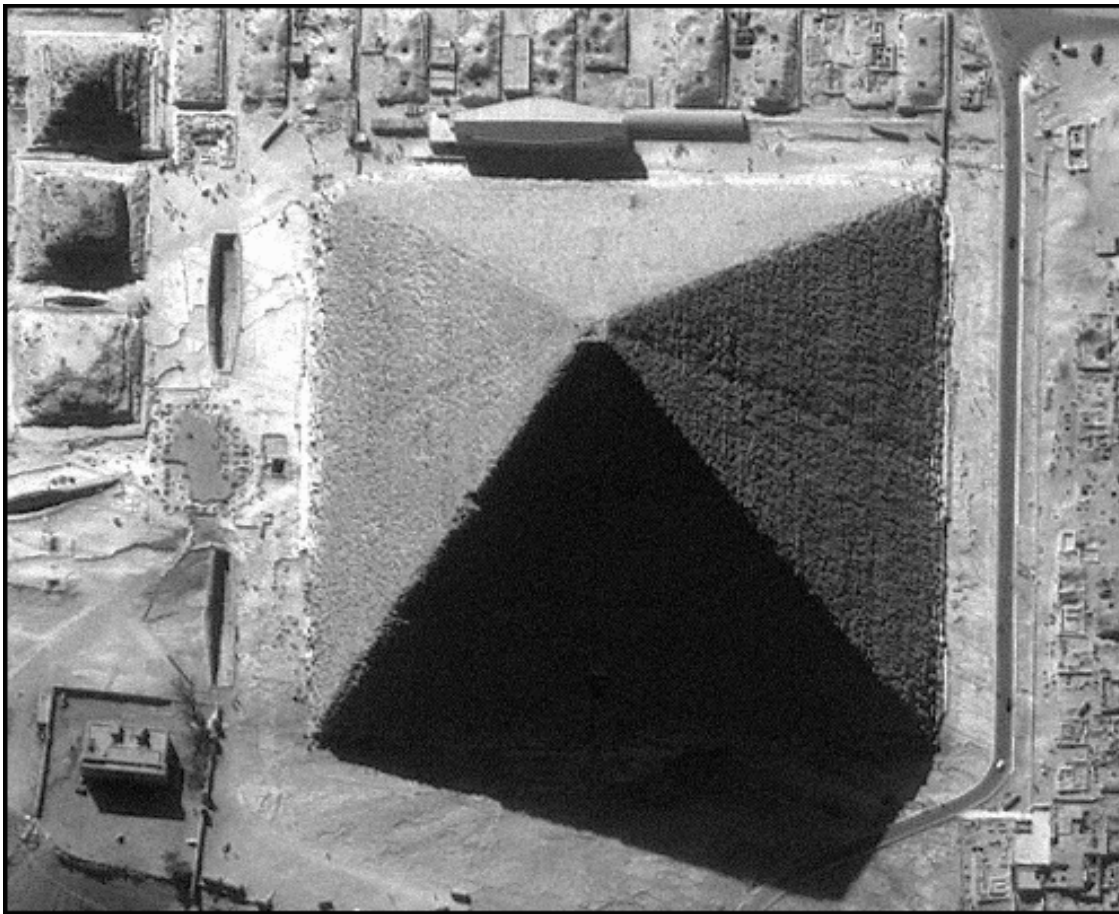

Figure 19. Cheops Concavity
- The exterior concavity of the pyramid (see Figure 19) *could* have had the effect of focusing exterior electromagnetic energy upon the north face of the pyramid to the center of the concave surface which in turn would refocus the energy into the King's Chamber Northern Shaft (wave guide), then into the King's Chamber and then directly upon the north face of the Sarcophagus
photographed the pyramid from the top that clearly clarified the 8 sides. The photo in Figure 19 was taken by the IKonos satellite (a commercial earth observation satellite) and can only be seen under specific conditions as stated below: